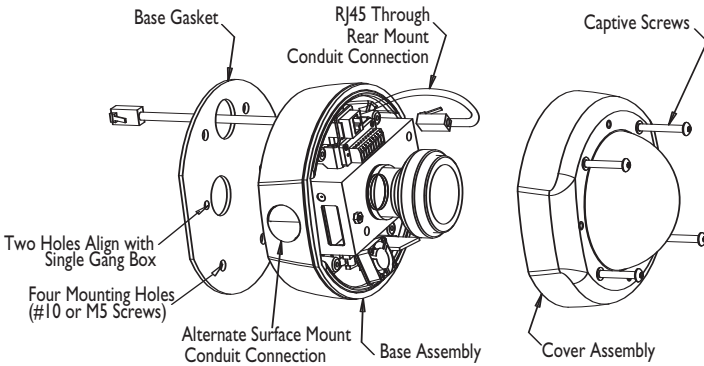

Figure 1 Dome Camera Assembly
1. Using the special Allen wrench provided, remove the 4 tamper resistant screws located on the cover. The screws are captive and will remain with the cover. Refer to **Figure 1**.
Refer to *Figure 1*.